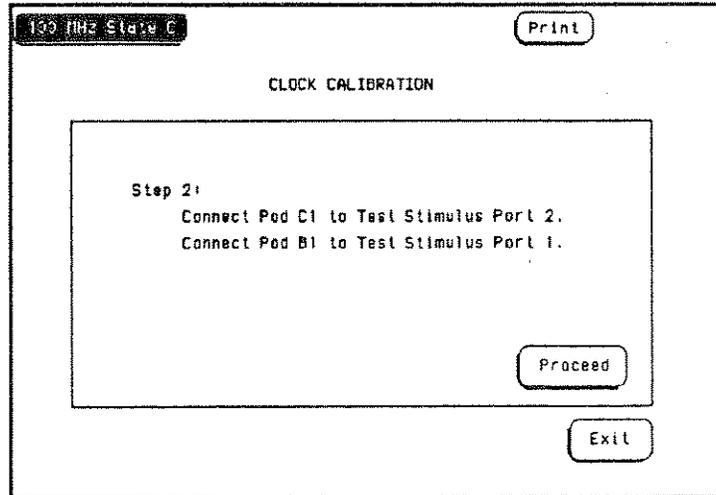

Figure B-9. Master Clocking Calibration Step 2
5. Figure B-9 shows step 2 in the calibration. Move the master card pod to test stimulus port 2, connect pod 1 of the first expansion card to be calibrated to test stimulus port 1, the touch Proceed.